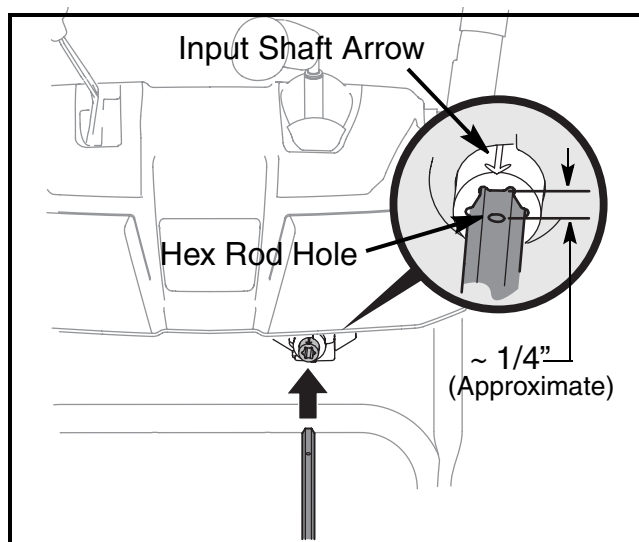

FIGURE 17
29. Insert the hex rod into the chute control assembly input shaft below the joystick. Make sure to line up the hole in the hex rod with the arrow on the input shaft. See Figure 17.
NOTE: The hole is a reference for aligning the rod with the indicator arrow on the chute control assembly input shaft. When the rod is properly inserted into the input shaft, the hole will be approximately a 1/4" from the end of the input shaft. See Figure 17.